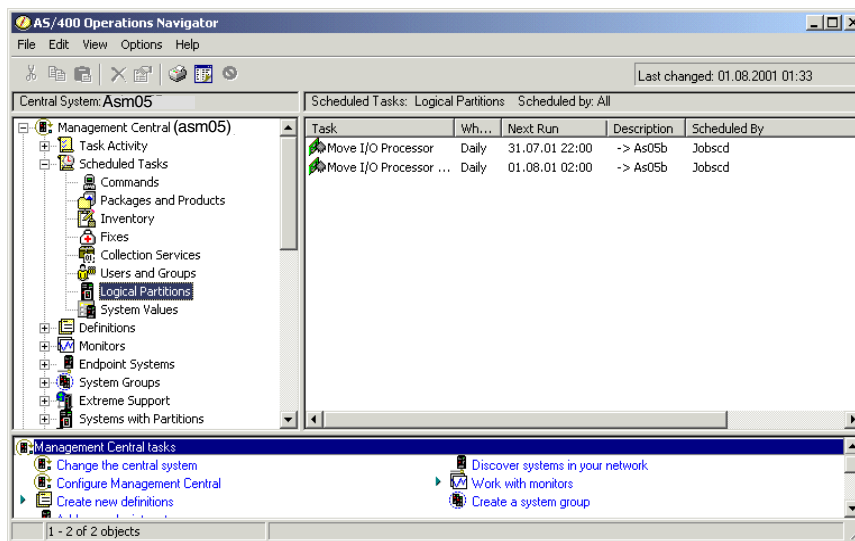

Figure 8-52 AS/400 Operations Navigator: IOP scheduled tasks
16. If you look under **Management Central-> Scheduled Tasks-> Logical Partitions**, you should see the two scheduled IOP move tasks (Figure 8-52).